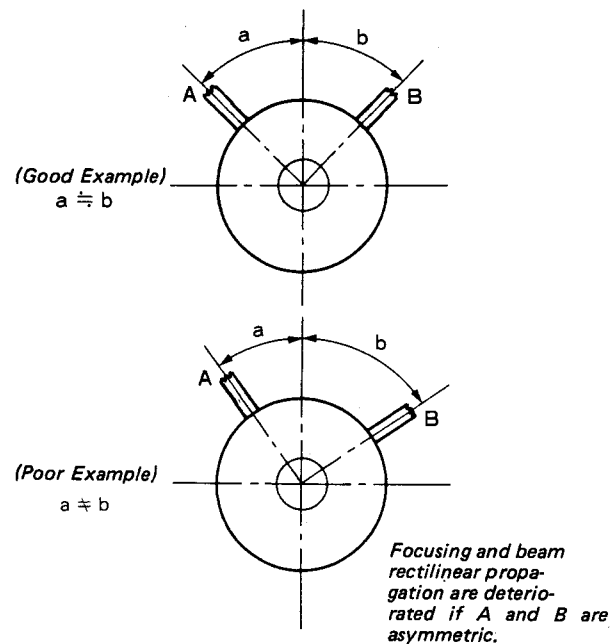

Fig. 3-7
4. Overlap the R and B dots in a vertical direction in the center of the picture using the V-STAT magnet (4-pole ring magnet). (See Fig. 3-7.)